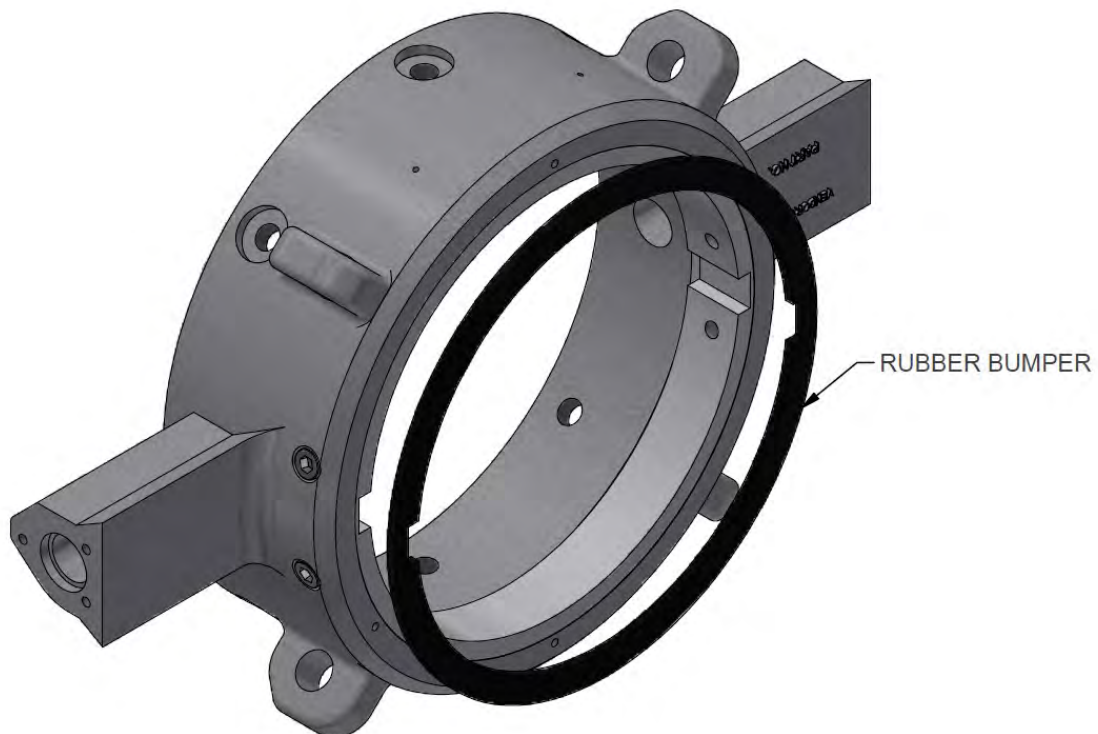

Figure 8-3 Replacing External Bumpers
5. Using a razor knife, notch out keyways in the external bumper to match those in the collar (Figure 8-3).